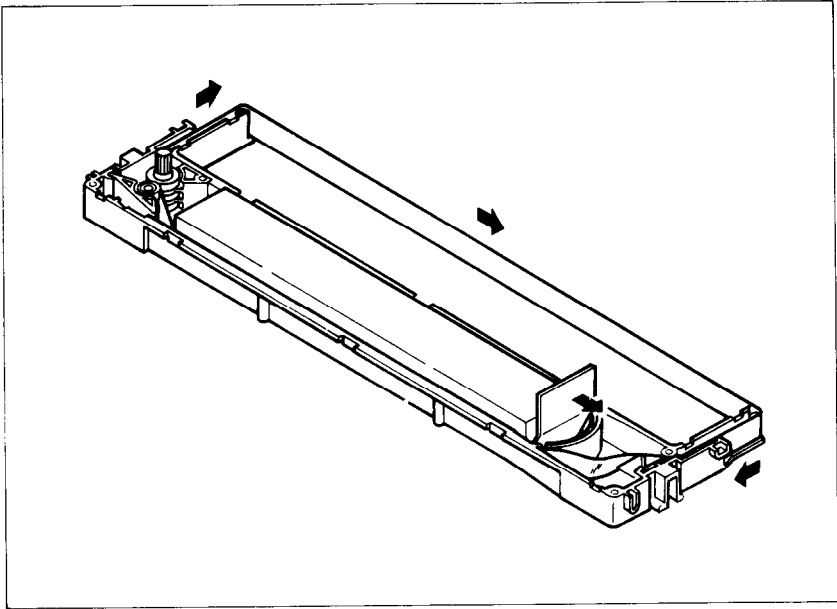

Figure 8-3. Make sure that the ribbon is not twisted when you thread it through its path.
8. Pull out the ribbon and thread it as shown in Figure 8-3. It's easy for the ribbon to get twisted along its path, so be careful.